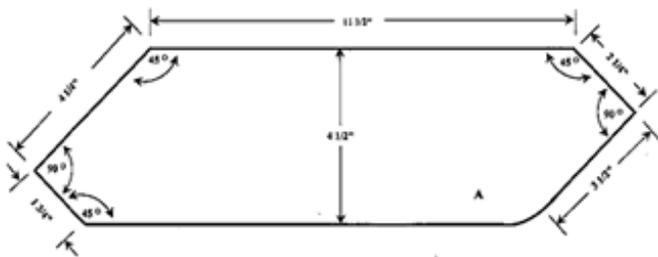

Figure2 - Lexan Sides
1. Cut the sides to the dimensions shown in Figure 2. I used double-sided tape to connect the two sides when I made the cuts. This ensured both sides would be the same dimensions.